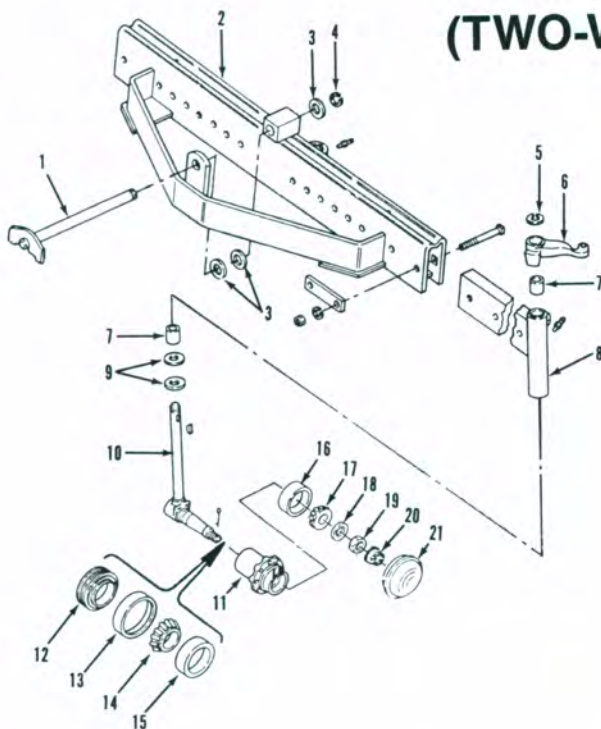

Fig. 1—Exploded view of adjustable front axle used on Model 6080. Other models are similar.
1. To disassemble, raise and support front of tractor. Remove hub cap (21—Fig. 1), cotter pin and bearing retaining (19), then separate wheel hub (11) and bearings from spindle (10). Drive bearing cups and seal wear sleeve (13) out of wheel hub if renewal is necessary. Drive seal (12) from spindle.
Pack bearings with wheel bearing grease, then reinstall wheel hub. Tighten adjusting nut (19—Fig. 1) to 85 ft.-lbs. (115 N · m) torque while rotating hub to seat bearings. Then, loosen nut to align hole in spindle with notch in nut or nut retainer (20) and install cotter pin. Install hub cap.
2. To remove front spindle (10—Fig. 1), first raise and support front of tractor. Remove front wheel. Remove retaining ring (5), then pull steering arm (6) from spindle. Note that arm is an extreme shrink fit on spindle and removal will probably require using a hydraulic press or cutting arm off with a torch. Withdraw spindle from axle extension (8) and remove thrust washers (9).
4. The axle main member (2—Fig. 1) is supported by pivot pin (1). The pin pivots in renewable bushings in front support casting.